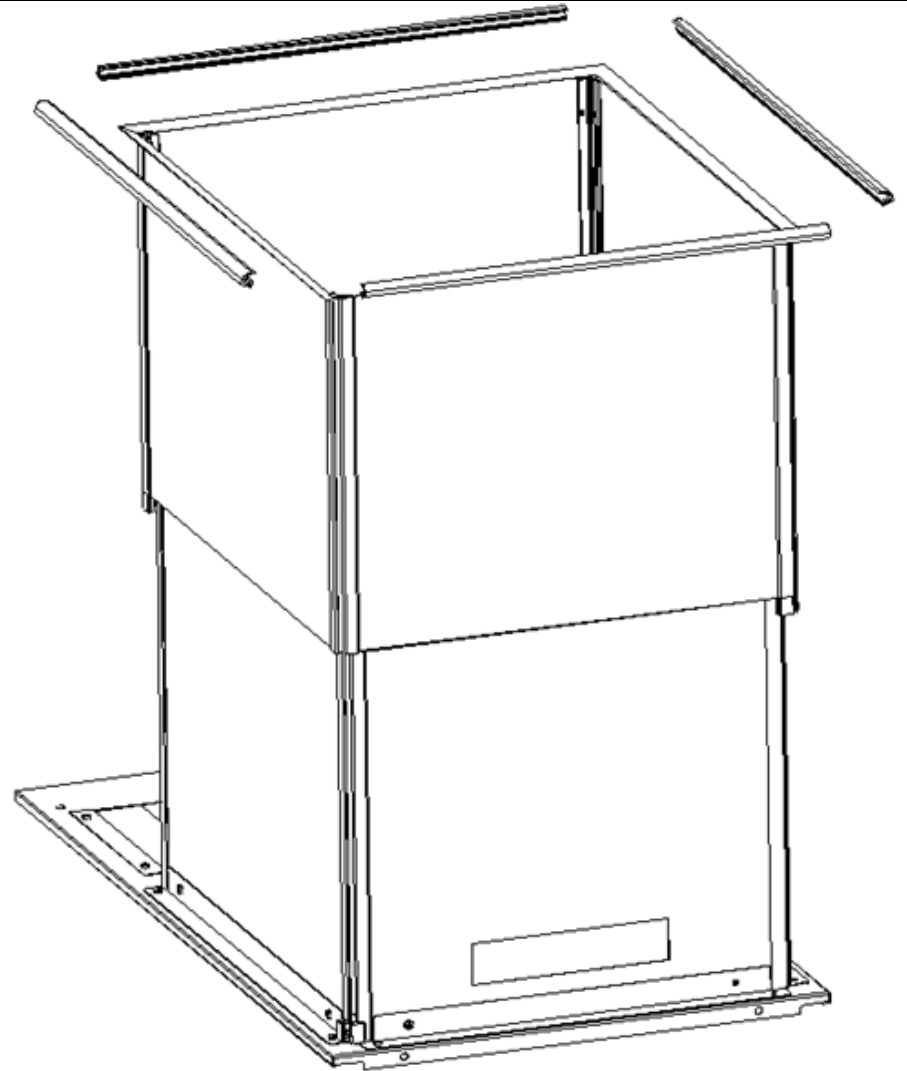

Fig. 8
8. Insert sealing strip, then adjust the height by corner lock (Fig. 8).